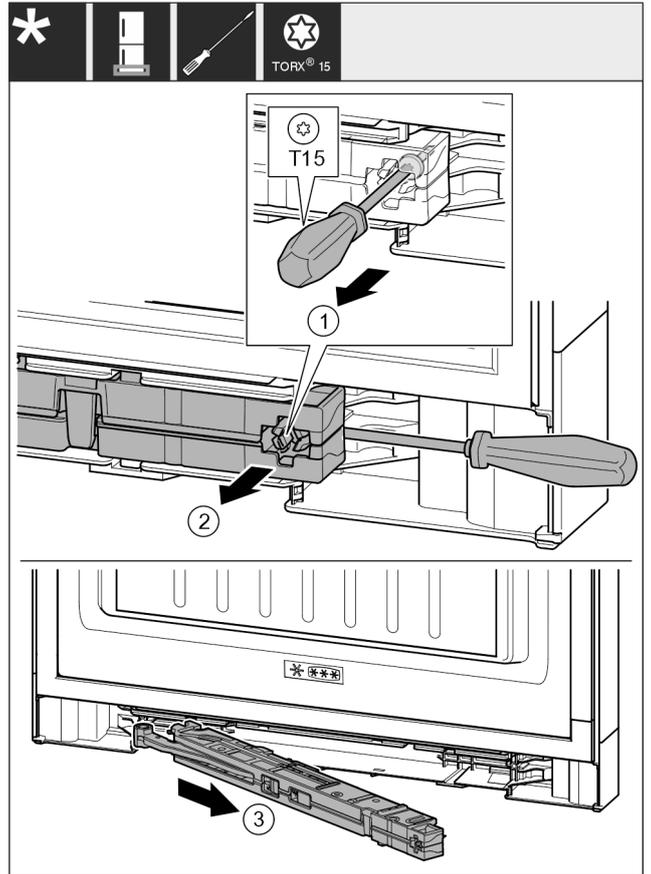

Fig. 19
- ▶ Use screwdriver to loosen the screw Fig. 19 (1) on the closing damper unit by 14 mm.
- ▶ Lever the closing damper unit Fig. 19 (2) forwards on the handle side using a screwdriver.
- ▶ Pull out the closing damper unit Fig. 19 (3).